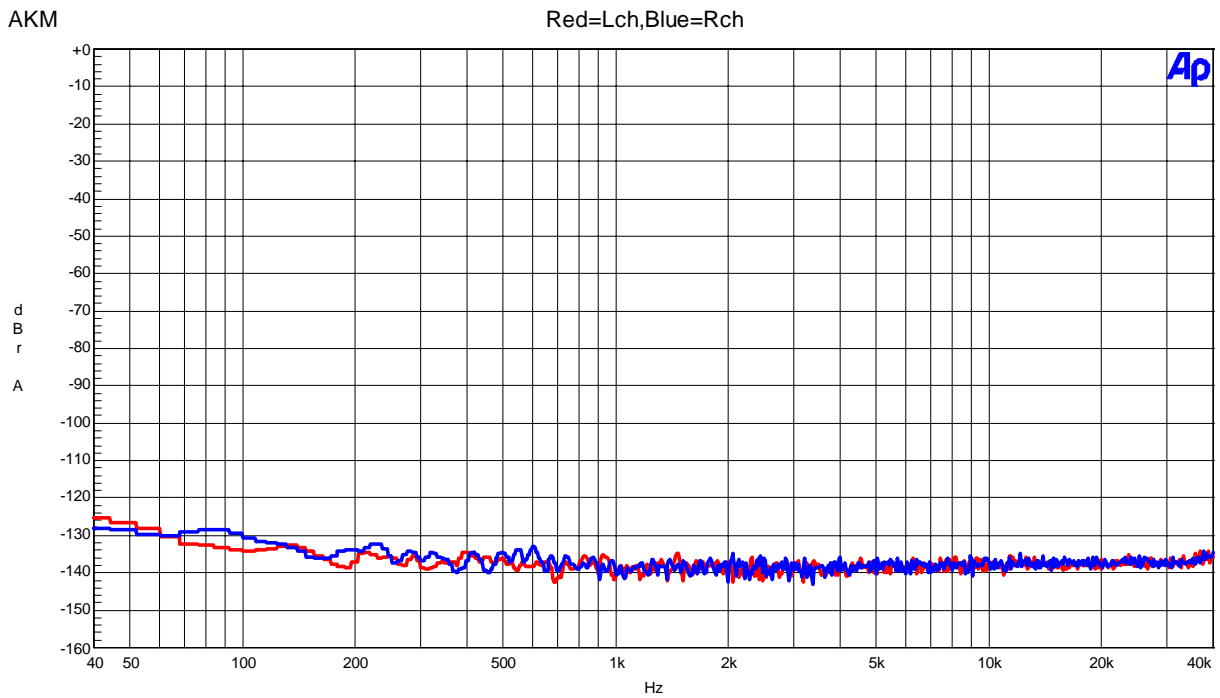

Figure 36. FFT(noise floor)
- Figure 36. THD+N vs Input Level (Input Frequency =1kHz)